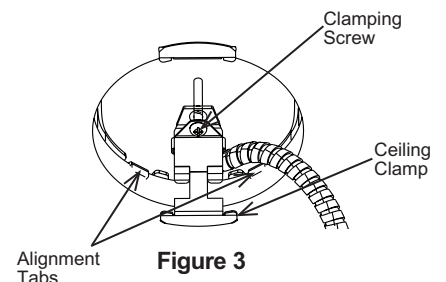

Figure 3
Step 4. Align frame over opening so that 4 tabs center the fixture in the hole (Fig. 3).